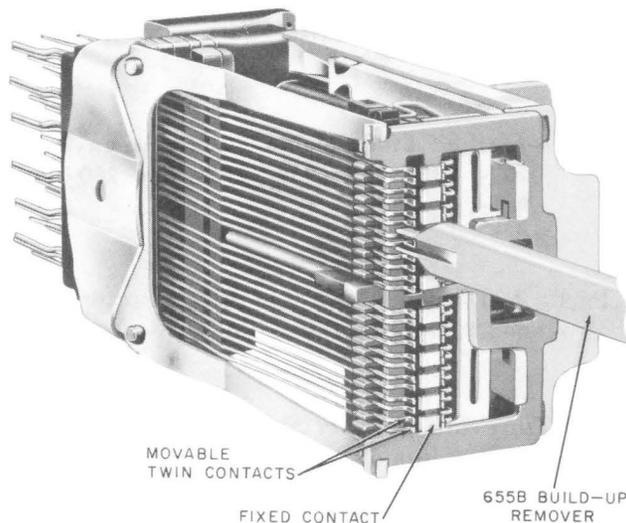

Fig. 38—Method of Removing Buildings on Fixed Contacts of AF-, AG-, AJ-, AL-, and AM-Type Relays (Wire-Spring Type)
- (1) Insert the 655B build-up remover between the twin and fixed contacts with the twin contacts seated in the groove of the build-up remover as shown in Fig. 38. On normally closed contacts operate the relay manually,